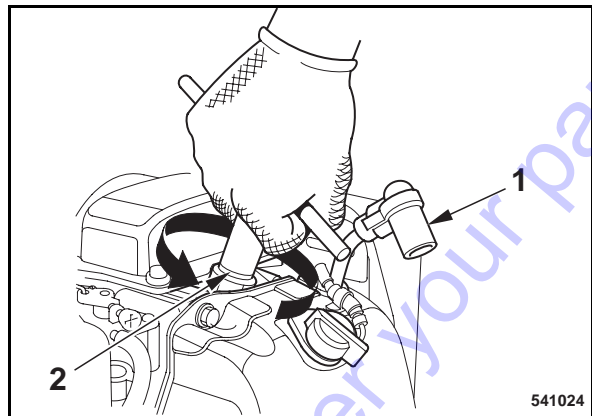

Fig. 36
- Pull off the spark plug socket (1) (Fig. 36).